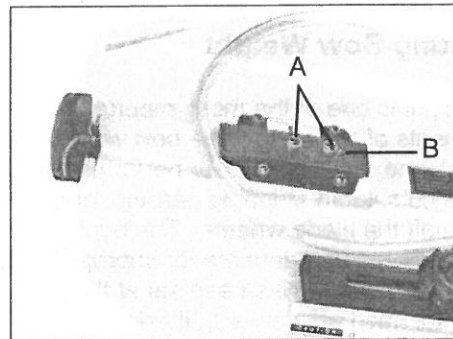

Fig. 14
5. Loosen bolts (A, Fig.14), if blade is far away or too close to the wheel flange that need to adjust blade track.
6. Turn setscrew (B) while observing blade tracking on wheel. Turn setscrew clockwise to track blade closer to the wheel flange. Turn set screw counter-clockwise to track blade away from the wheel flange.
7. Once tracking is set, tighten bolts (A).